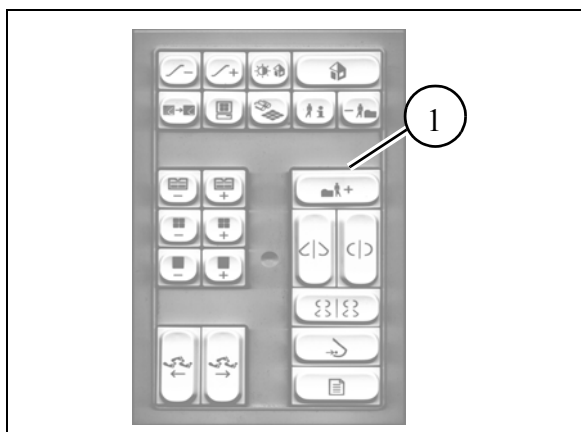

Fig. 7 Workflow keypad
- Plastic parts of the Workflow keypad (1/ Fig. 7):